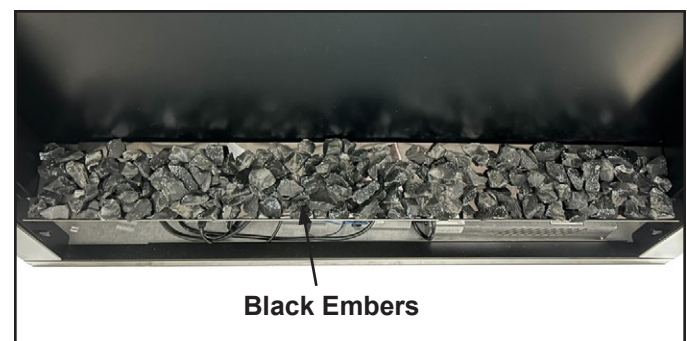

Figure 4.16 Install Black Embers
3. Carefully place the black embers evenly across the ember bed area. See Figure 4.16.